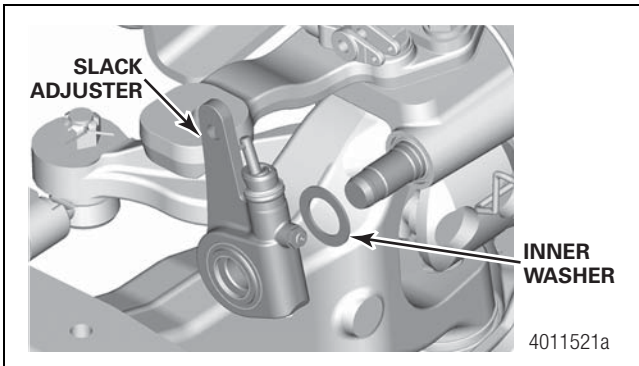

Figure 4.16
4. Remove the slack adjuster and inner washer from the camshaft. Figure 4.16.